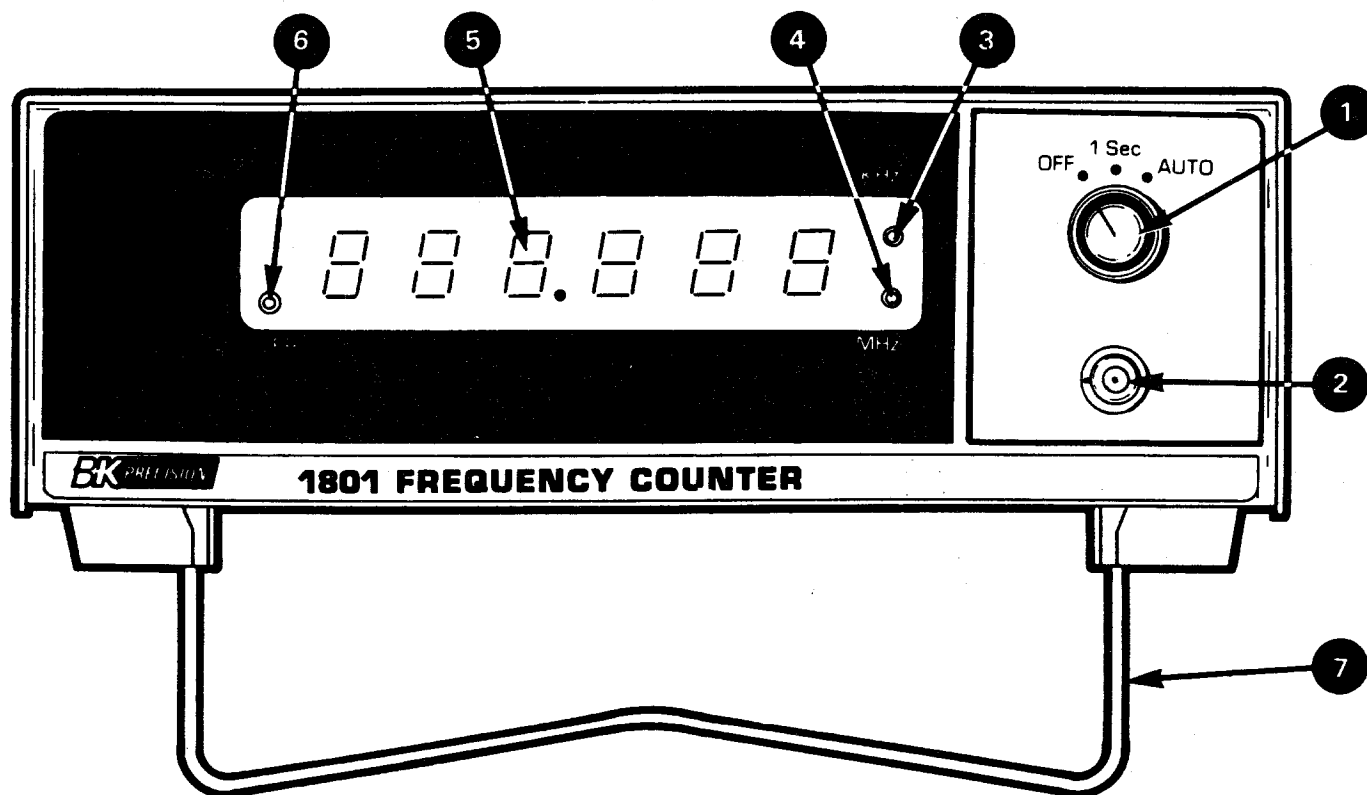

Fig. 3. Controls and features.
3. **kHz FREQUENCY UNIT INDICATOR.** Indicates that the decimal point is placed to read measured frequency in kHz. This indicator is always on when the function switch is in the 1 SEC position, and the decimal point is as shown in Fig. 3.